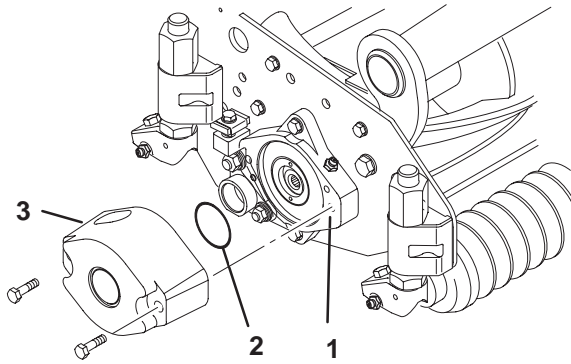

Figure 3
3. Lubricate and install a large O-ring into bearing housing groove on each end of cutting unit (Fig. 3 & 6).
4. Install a counter weight onto appropriate end of each cutting unit with capscrews provided (Fig. 3).